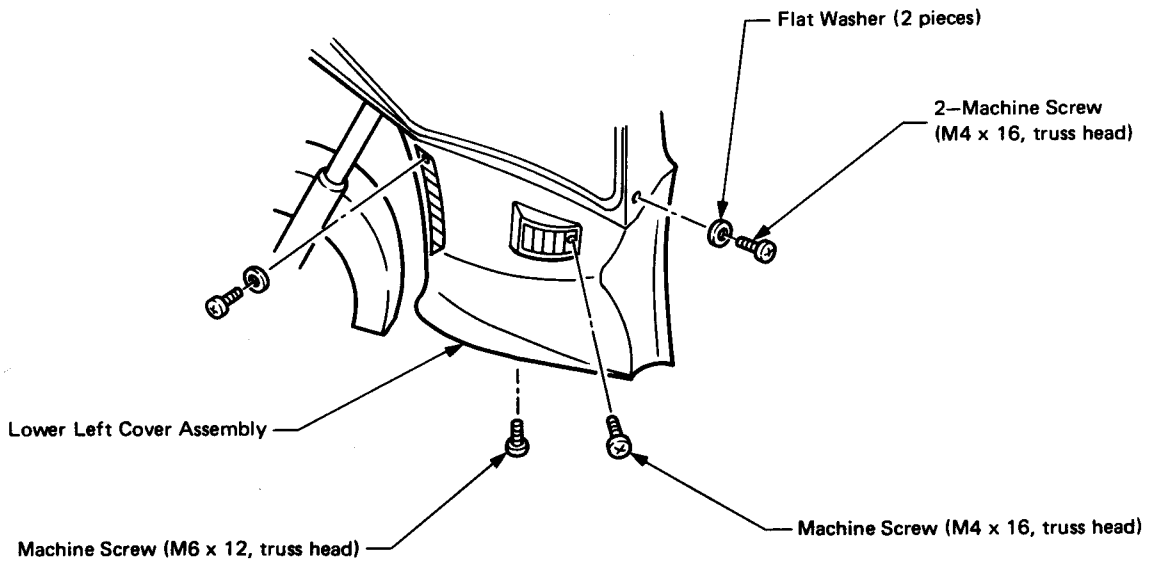

Fig. 8
8. (1) Remove the screws and the Lower Left Cover Assembly, as shown in Fig. 8.